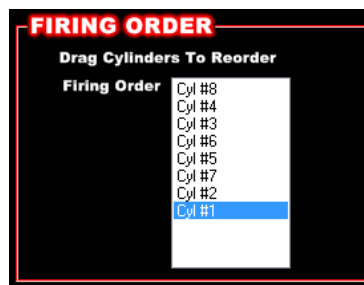

Figure 4
- C. Firing Order Change: Holley EFI expects the cam signal to occur in a certain position. For this to occur in the correct location, you'll need to change the firing order. To do this, move the cylinder that is first in the firing order, to the last position. The following example shows what you'd need for a standard Chevy V8, changing the firing order from 1-8-4-3-6-5-7-2 to 8-4-3-6-5-7-2-1. Figure 4 shows how this should look when completed.